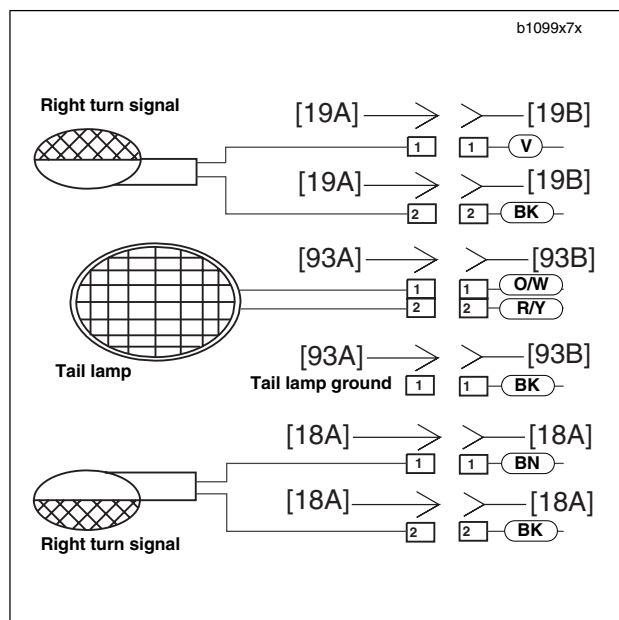

Figure 7-52. Rear Turn Signal Connections
3. See Figure 7-52. Disconnect bullet connectors on turn signal wires.
1. See Figure 7-52. Insert bullet connectors through license plate bracket (4) and tail section (7).
2. Install reflector bracket (3).
- a. Place license plate bracket into position over threads on turn signal (1).
3. Attach turn signal using lockwasher (5) and fastener (6). Tighten fastener to 25-28 **in-lbs** (2.8-3.2 Nm).
4. Attach bullet connectors on turn signal wires as shown in Figure 7-52.